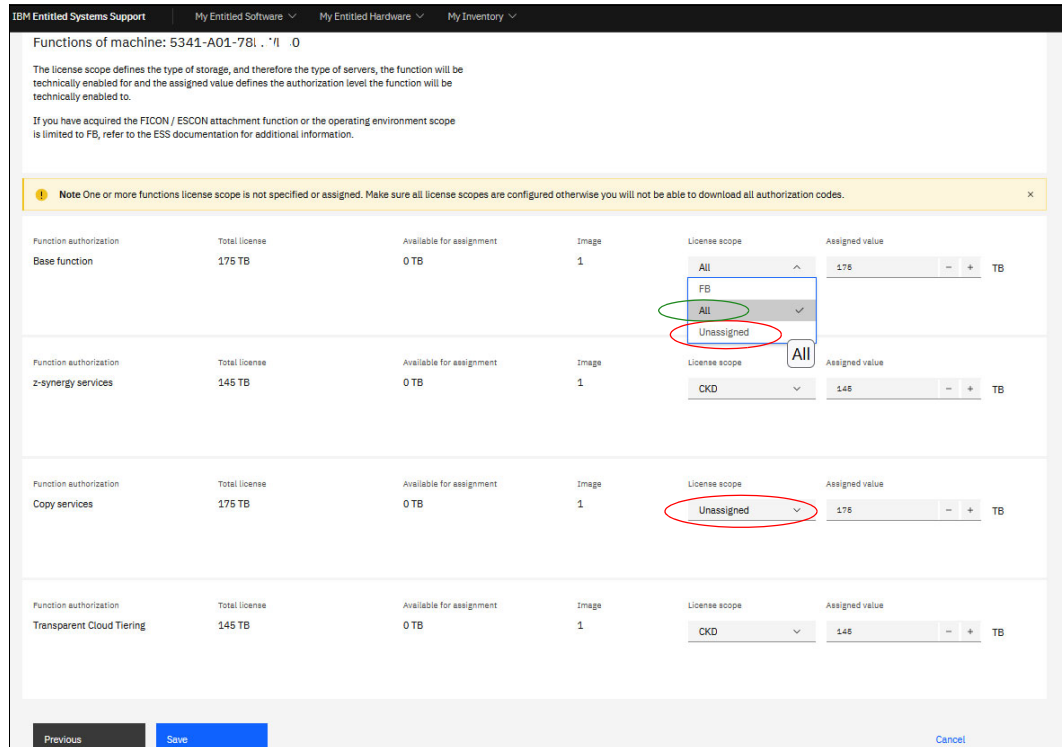

Figure 7-18 ESS: Manage activations
- If it is not done yet, the **Actions Assign function authorization** and **Manage activations** allow you to specify the details for the respective license group. Managing activations is shown in Figure 7-18 on page 208.
- Ensure any **Unassigned** scopes (as shown in Figure 7-18 on page 208) are all assigned. Unassigned scopes can be assigned, for example, to an **All** scope.